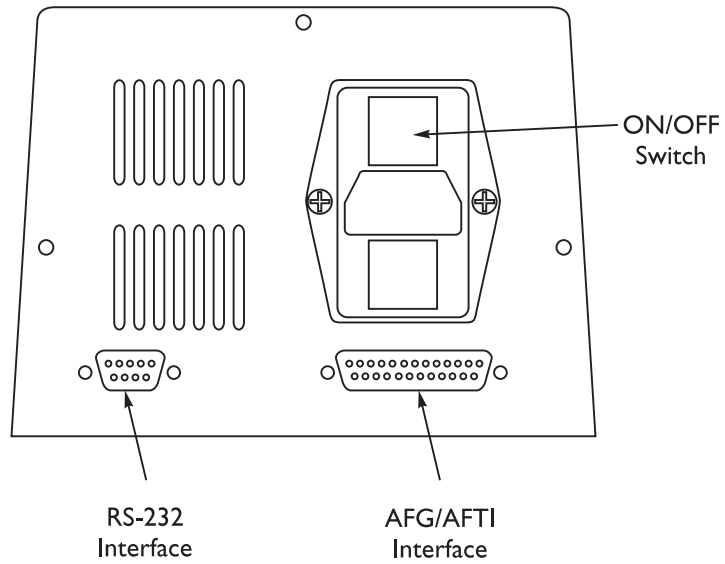

Figure 2
3. Turn on the power switch shown in Figure 2. If the power bar does not illuminate, turn the red emergency stop button in a clockwise direction.
There are two external control ports at the rear of the TC². See Figure 2.